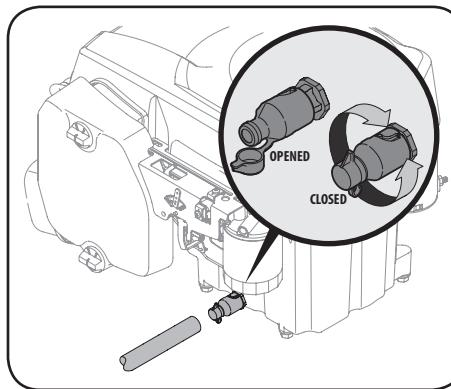

Figure 4-1
- Open the protective cap on the end of the oil drain valve to expose the drain port. See inset of Figure 4-1.
- Slightly push in on the oil drain valve and rotate counter-clockwise to open and allow the flow of oil. See Figure 4-1.